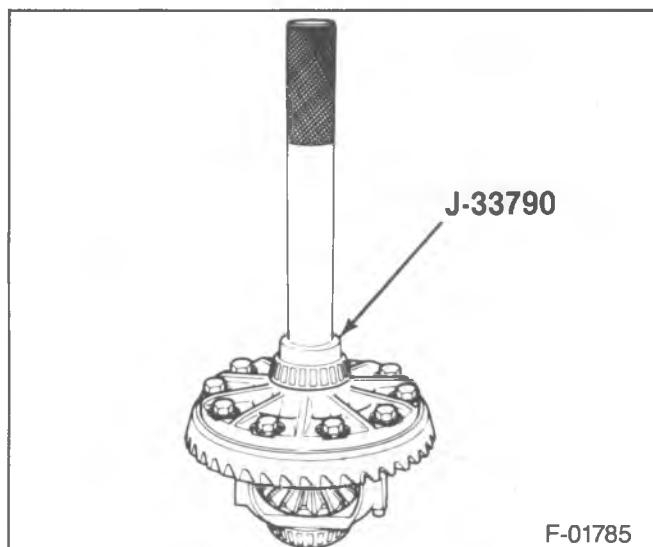

Figure 76—Installing the Side Bearings
2. Position one pinion gear (56) between the side gears and rotate the gears until the pinion gear is directly opposite the opening in the case.
- Place the other pinion gear (56) between the side gears, making sure the hole in both pinion gears line up.
3. Thrust washers (55).
4. Shaft (52) and bolt (36).
5. Ring gear (37) onto the differential case (35).
6. Bolts (34). Always use new bolts; never reuse the old bolts.
- Bolts (34) alternating in progressive steps to 80 N·m (60 ft. lbs.)
- 7. Side bearings (33), using J-33790 (figure 76).